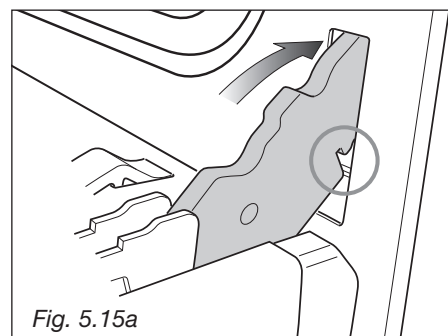

Fig. 5.15a
- Insert the hinge tongues into the slots, making sure that the groove drops into place as shown in the fig. 5.15a.